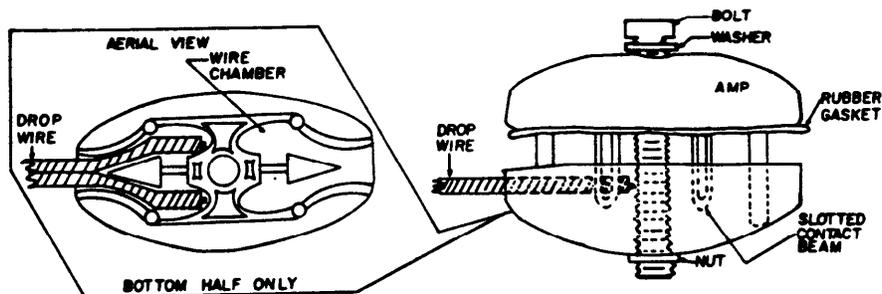

Fig. 3 - Drop Wire Insertion
- 2.07 Align the conductors with the splitter edge inside of the splice and insert through the sealant until the base of the split conductor rests on the splitter point (Fig. 3).